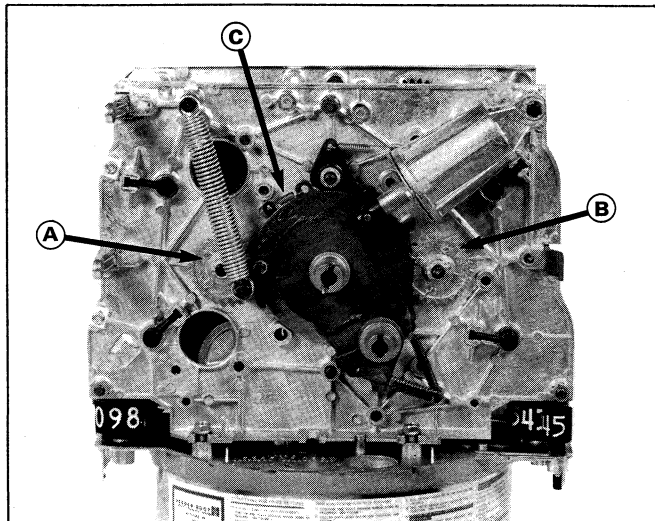

Figure 45.
4. Reset Gears Do Not Turn (Figure 45).